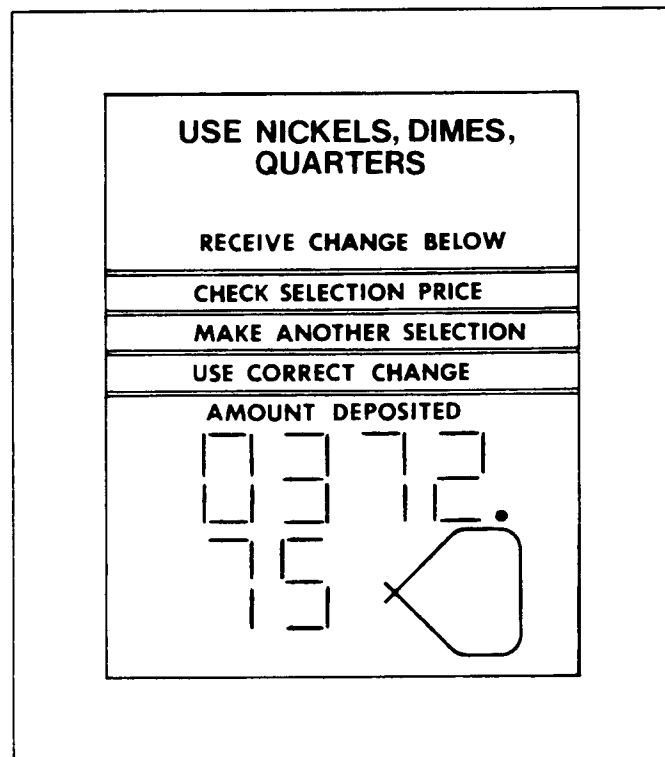

Figure 18. SHOWING \$372.75
- B. Press button 14 on the selection panel and the total dollars vended by the machine will be displayed (Figure 18).